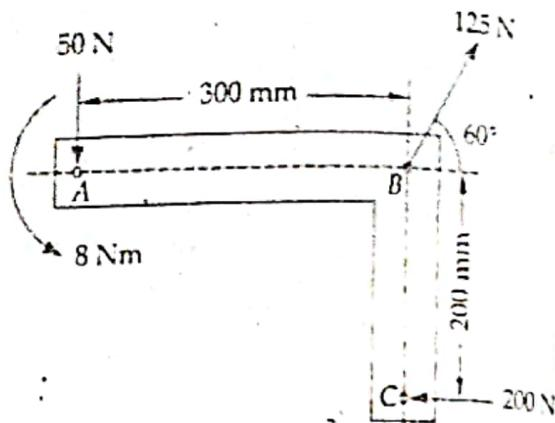

Fig. 8
Q.3. An angle bracket has been subjected to three forces and a couple as shown in Fig. 8. Determine the resultant of this system of forces. Proceed to locate the points where line of action of resultant intersects line AB and the line BC.